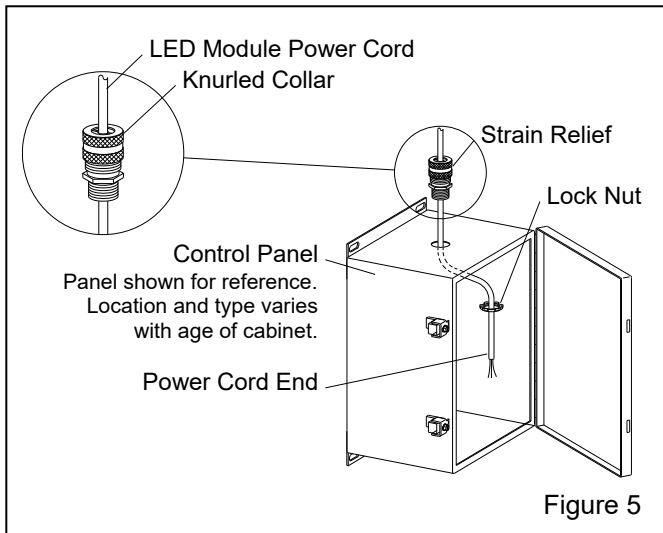

Figure 5
3.5 Loosen the knurled collar on the strain relief connector and thread the light module power cord into the knurled end of the connector, as shown in Figure 5.